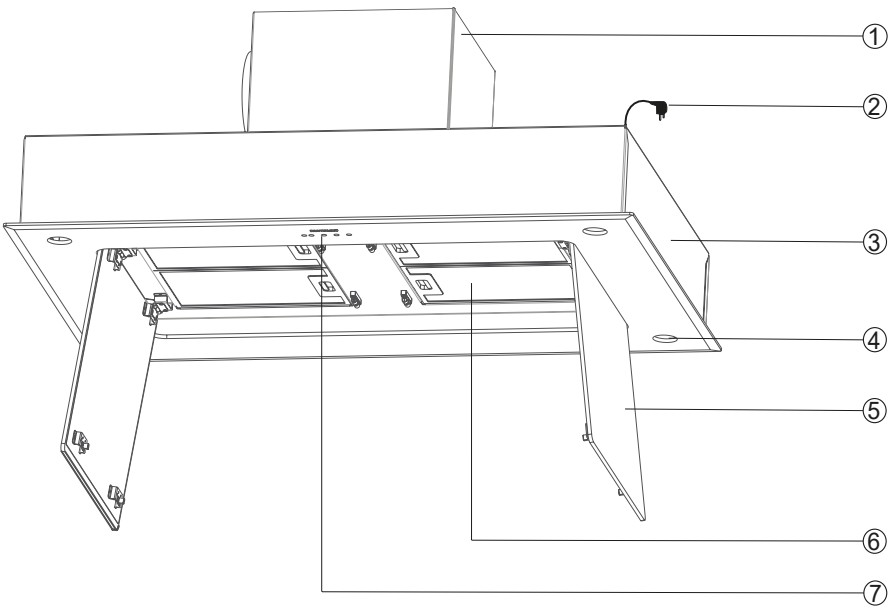

Figure 1: Overview
- They can connect the exhaust air in all directions to the motor box (fig.1). By turning the motor box, you bring the air vents with a Ø of 150 mm in the desired direction to the wall sleeve or other part.